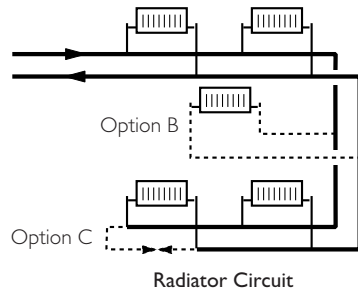
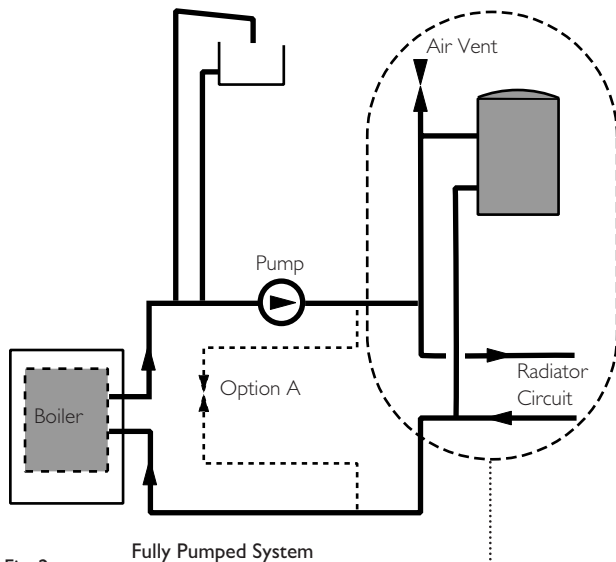

Fig. 1
Fig. 2
NOTE: For 'S' Plan systems the bypass flow circuit must be situated between pump and zone valves as option A shows (Fig. 2).
- For all boilers a minimum of 6 metres of 22mm copper pipe, (measured between the boiler flow and return connections). It should be fitted with a lock shield valve opened at least 1 full turn or a proprietary bypass valve set to give a minimum flow rate of 8 litres/min (1.8 gal/min) (Option C, Fig. 1 & Option A, Fig. 2).
- A radiator fitted with lock shield valves. The radiator output should be a minimum of 800 watts (2,700 Btu/h). Typically a convector type radiator with an area of 3750 cm² (4 sq ft) is adequate (Option B, Fig. 1).
- Any circuit that provides the same operating conditions as option A or option B (Figs. 1 & 2).